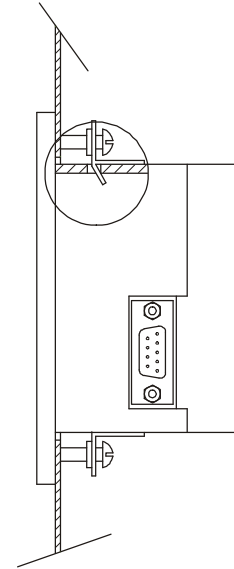

Figure 2.7 – MiniOCS Mounted in Panel Box using Mounting Clips.
4. Install and tighten the mounting clips (provided with the MiniOCS) until the gasket material forms a tight seal. (See Figure 2.7.)